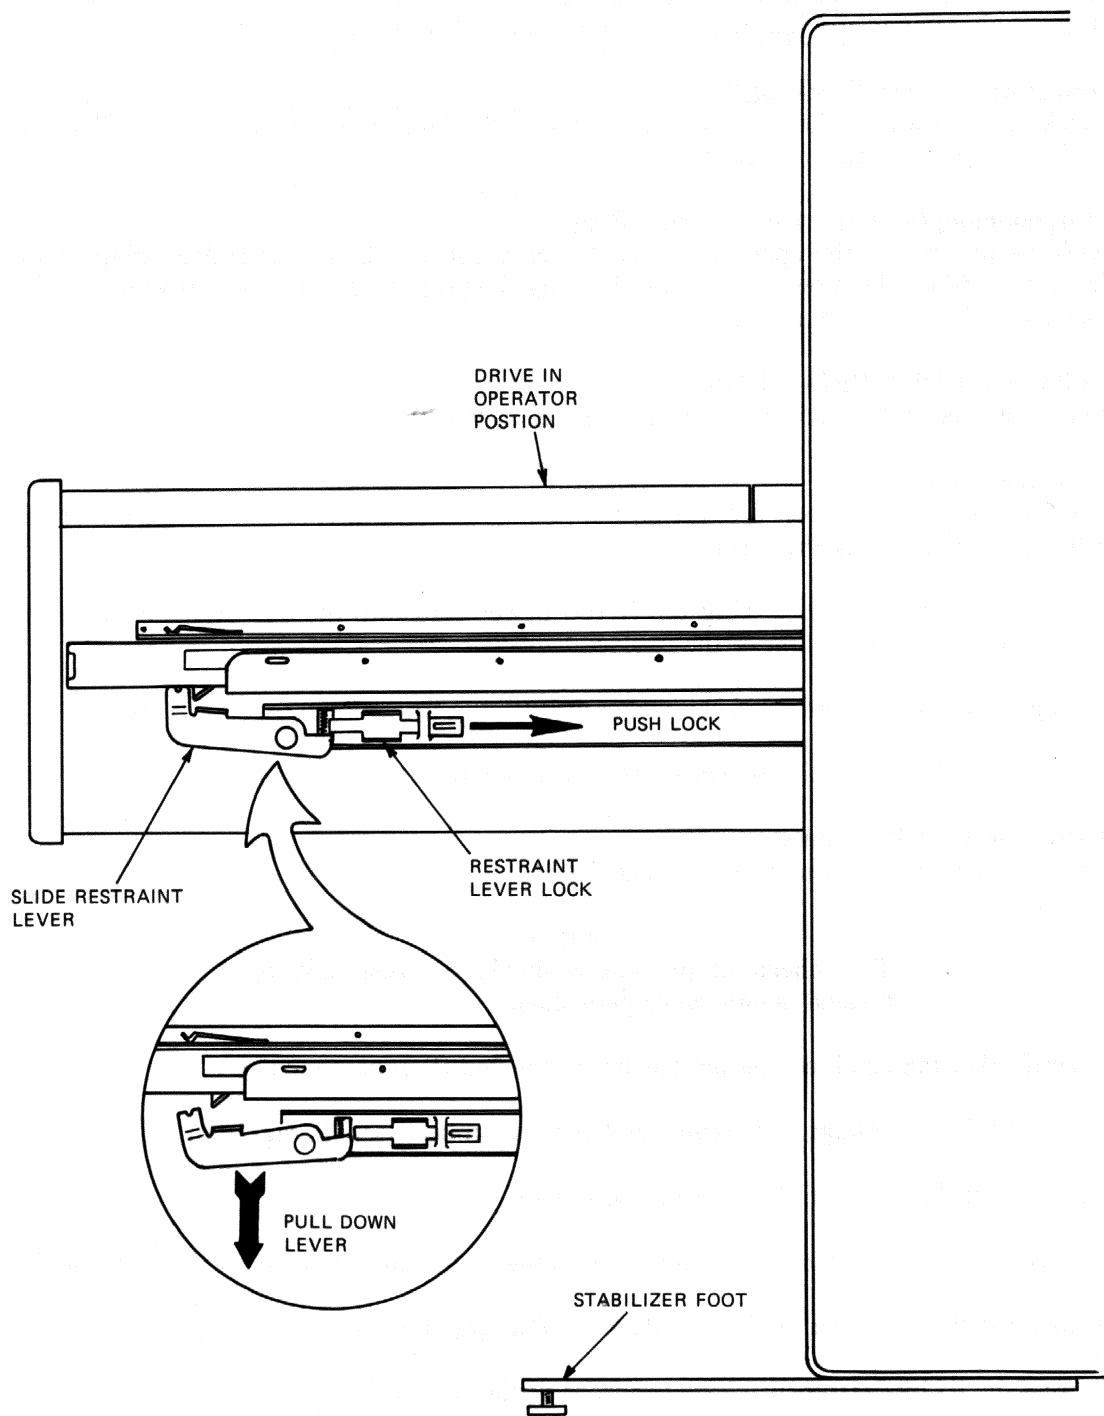

Figure 2-28 Extending the Drive
2. Extend the drive until restraint mechanism engages. Refer to Figure 2-28.
3. Insert a flat-bladed screwdriver under the restraint lever lock, and push the lock toward the back of the slide. Refer to Figure 2-28.
4. Push down on the restraint lever and extend the drive to the service position. Refer to Figure 2-28.